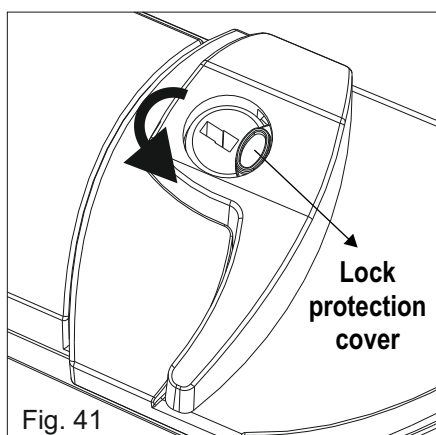

Fig. 41
- 1) Turn counter-clockwise the lock protection cover (Fig. 41)